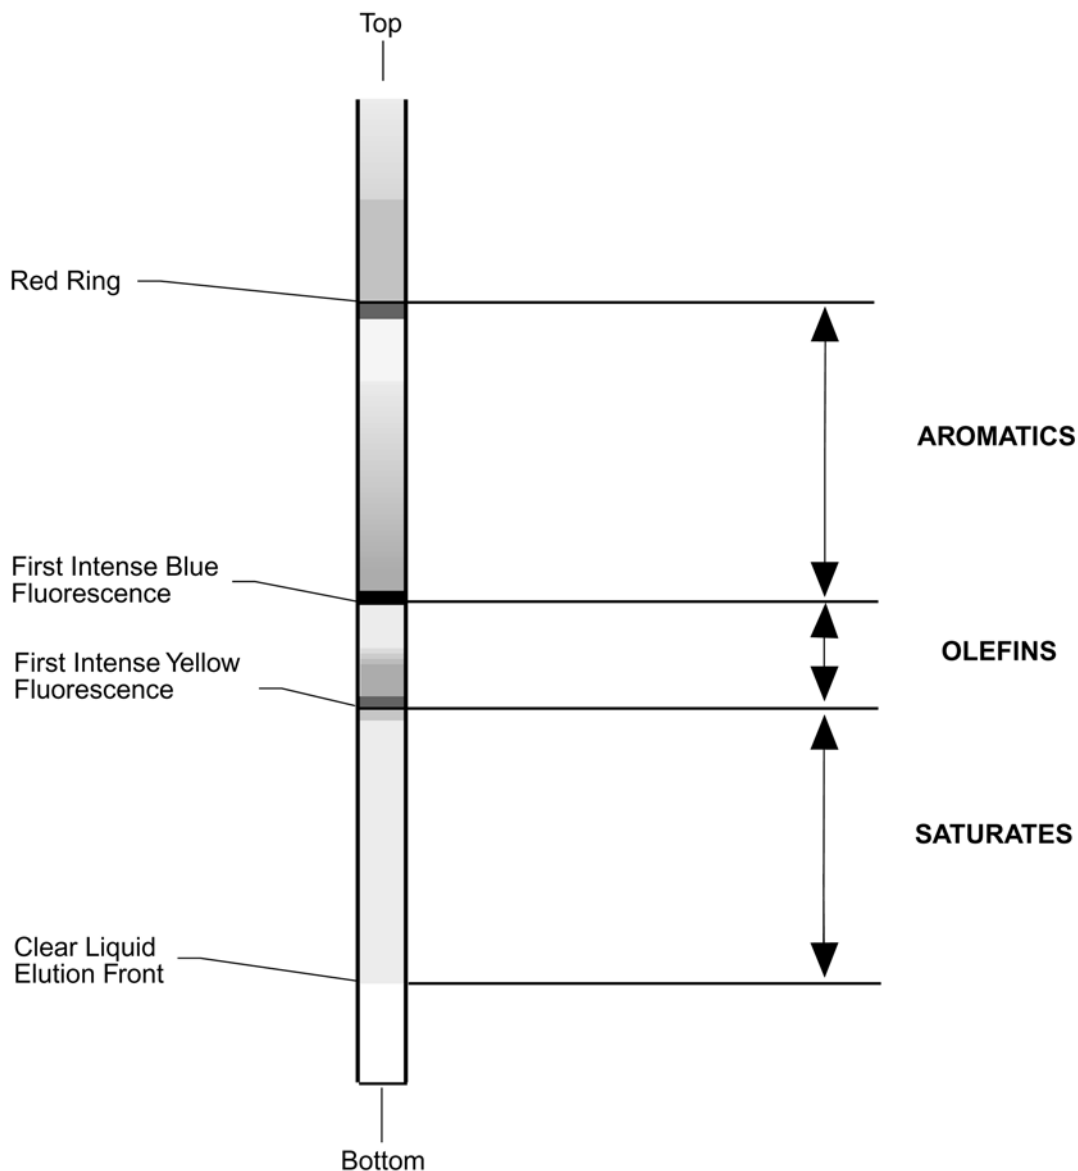

Figure 3
8. Refer to Fig. 3 to identify the different chromatographic boundaries of the separated hydrocarbon types.